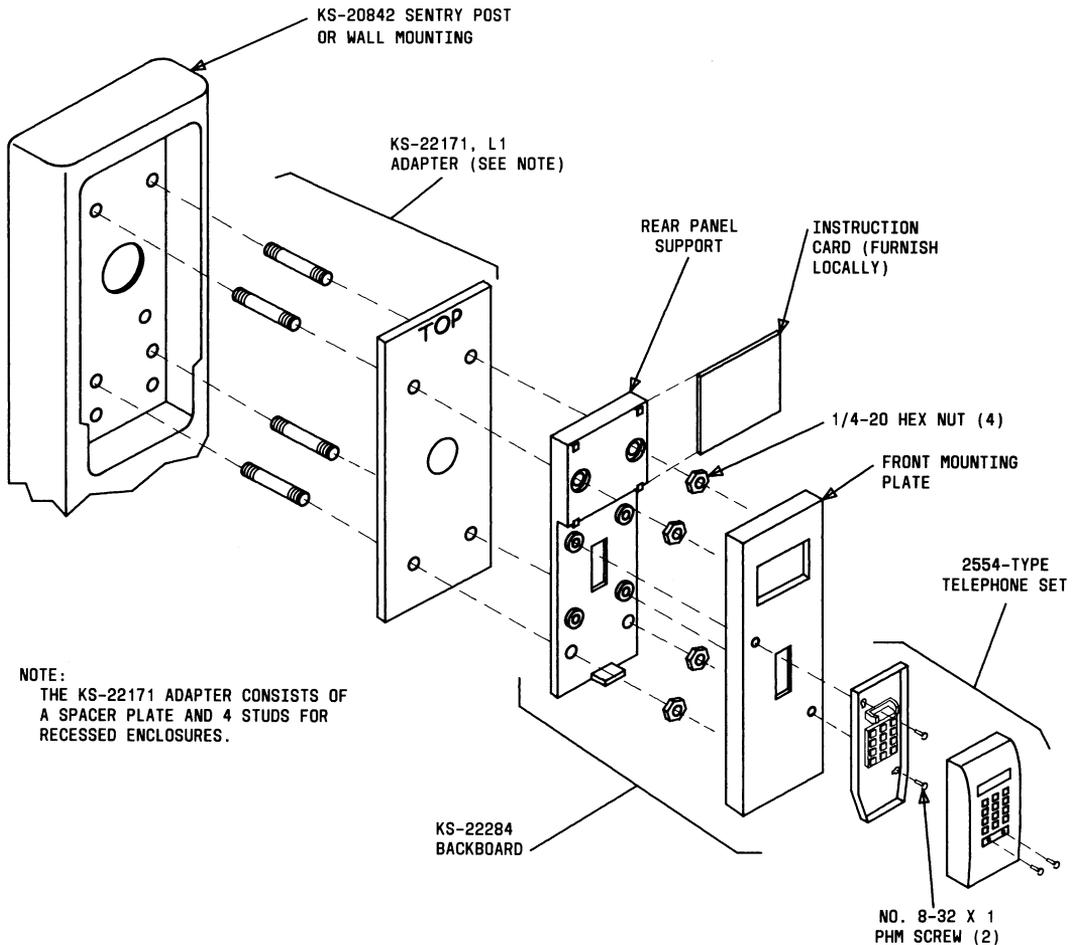

Fig. 10—KS-22284 Backboard and 2554-Type Telephone Set Used With Adapter
2.22 Any closure that will accept a 1-type coin telephone set will accept this backboard, however, when a recessed enclosure is encountered, such as the SENTRY mounting or wedge shelf, a KS-22171, List 1 adapter (Fig. 10) is required.
Note: For a recessed enclosure (SENTRY Mounting and Wedge Shelf) use a KS-22171, List 1 adapter (Fig. 10).
3.17 Place the front mounting panel over the rear panel support and install two No. 8-32 by 1 PHM screws furnished (Fig. 10). Do not tighten the two screws; they are also used to mount the base of the wall set.